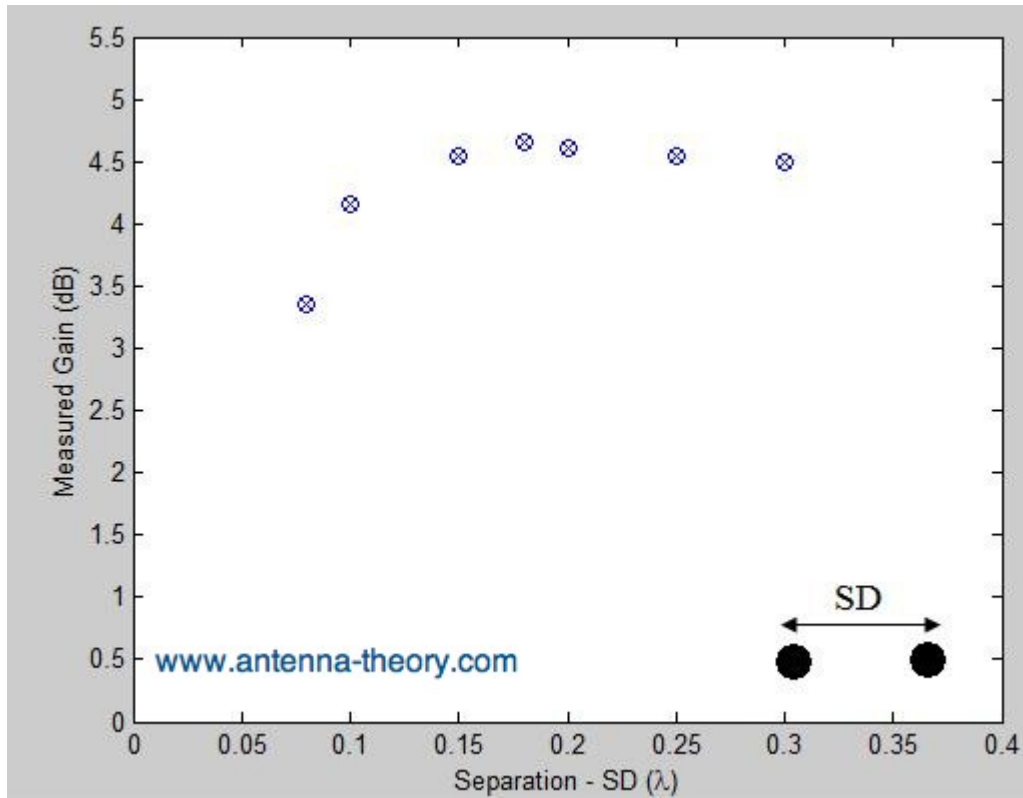

Figure 2. Gain versus separation for 2-element Yagi antenna.
2.15 dB). The gain as a function of the separation is shown in Figure 2.